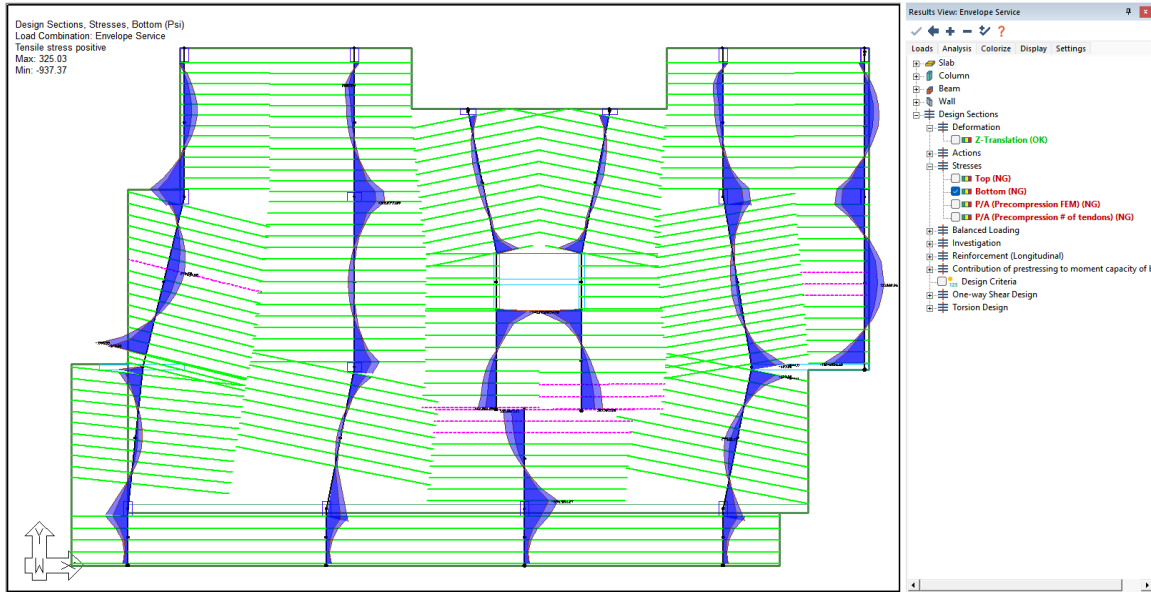

FIGURE 9-95
- You should now see the design section stress results for the support lines in the Y-direction for bottom stresses as shown in **FIGURE 9-95**.